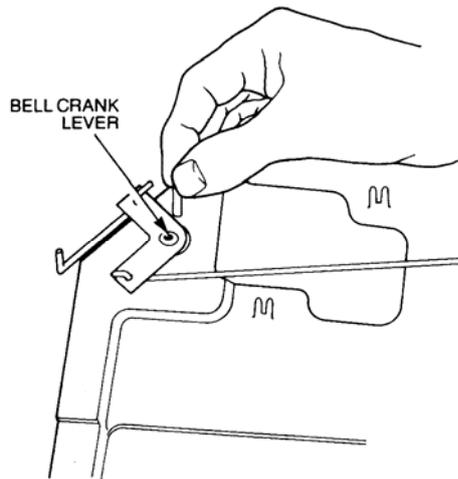

Figure 28 Link Rod Bell Crank Pivot Removal
- x. Remove the pins from the centre of the bell crank lever pivots (refer Figure 28).